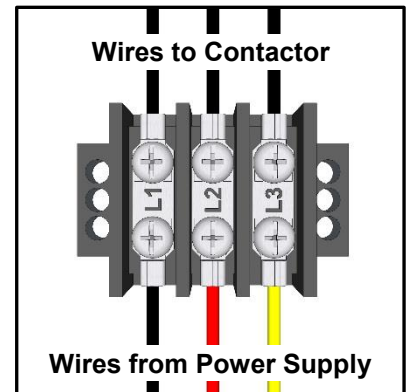

Figure 16
- 1 Have your certified electrician connect power to the 3 terminal T-bar and ground wire to grounding block. (see Figure 16)